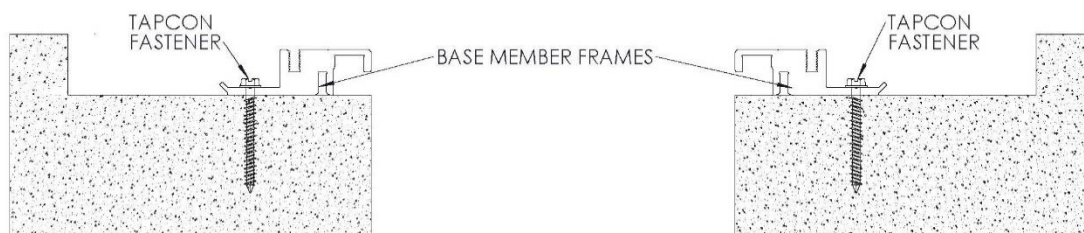

FIGURE 2
2. Position base member frames in blockout per shop drawings. Using the frame as a template mark, drill 5/32" holes for Tapcon fasteners. Install base member frames to the blockout opening with fasteners, making sure not to over tighten. **See Figure 2**